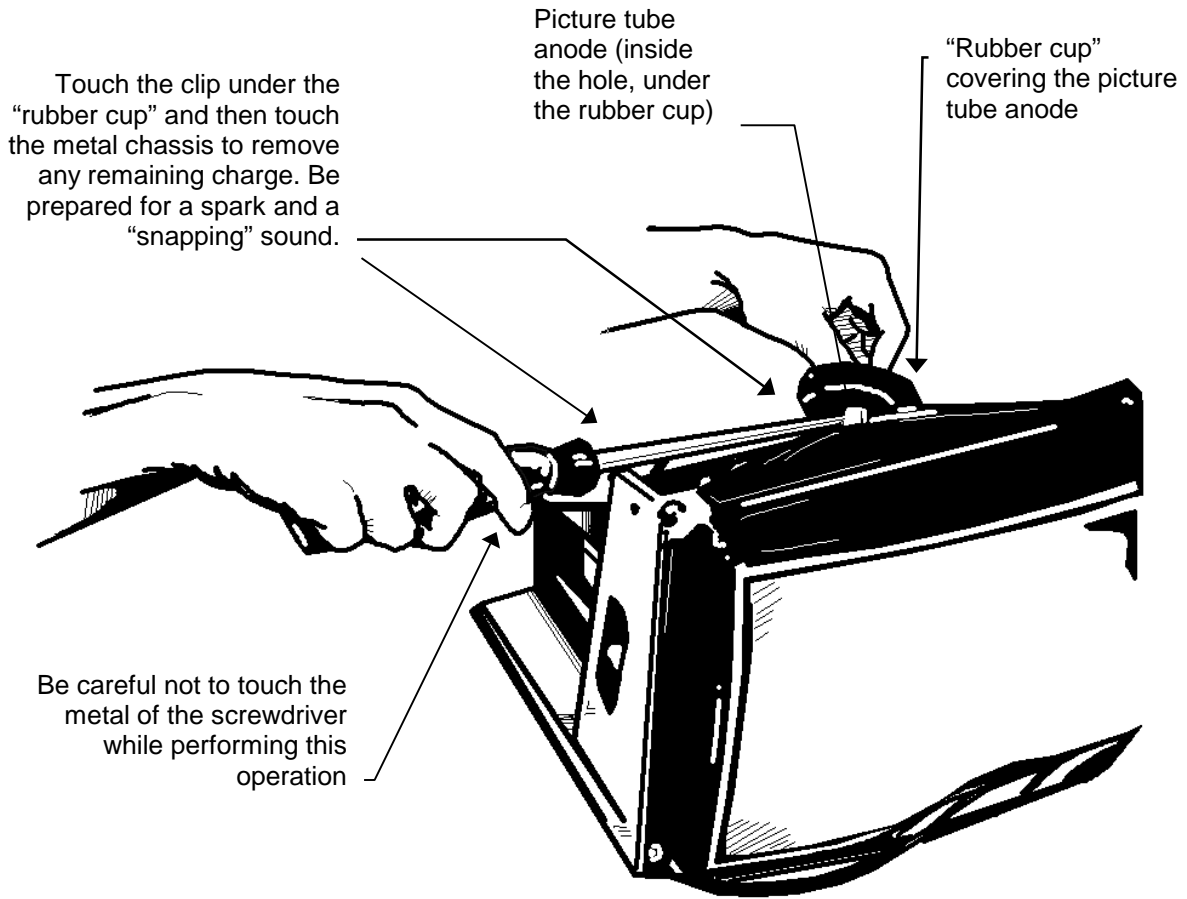

Figure 1 - Discharging the Picture Tube Anode
1. **MAKE SURE, BEFORE DISCONNECTING THE RED HIGH-VOLTAGE WIRE FROM THE MONITOR, TO DISCHARGE THE PICTURE TUBE ANODE BY TOUCHING THE SCREWDRIVER (OR SIMILAR METAL OBJECT) TO THE METAL CLIP UNDER THE "RUBBER CUP" AND TO THE METAL CHASSIS. BE CAREFUL NOT TO TOUCH THE PICTURE TUBE ANODE, OR THE METAL OF THE SCREWDRIVER, WHILE GROUNDING THE ANODE. NEGLECTING TO REMOVE THIS CHARGE CAN LEAD TO A SERIOUS SHOCK.** Disconnect the red high-voltage wire from the rear of the monitor, by gently pulling up on the "rubber cup" (picture tube anode), and simultaneously touching the screwdriver against the clip underneath and to the metal chassis (ground). See Figure 1.
UNDER THE "RUBBER CUP" AND TO THE METAL CHASSIS. BE CAREFUL NOT TO TOUCH THE PICTURE TUBE ANODE, OR THE METAL OF THE SCREWDRIVER, WHILE GROUNDING THE ANODE. NEGLECTING TO REMOVE THIS CHARGE CAN LEAD TO A SERIOUS SHOCK. Disconnect the red high-voltage wire from the rear of the monitor, by gently pulling up on the "rubber cup" (picture tube anode), and simultaneously touching the screwdriver against the clip underneath and to the metal chassis (ground). See Figure 1.